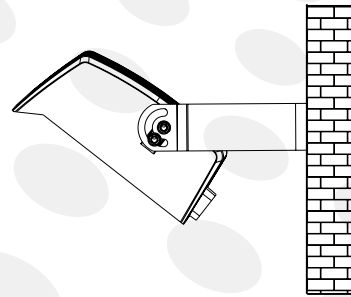

figure 1.4
Step 3: Loosen screw; Adjust fixture angles as per actual demands and tighten screws later. (figure 1.4), Tips: Angles of the fixture is adjustable